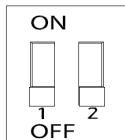

Figure 4.
2. As shown in **Figure 4**, adjust the position of the switch so that both switches are in the bottom position (labeled **1** and **2**).